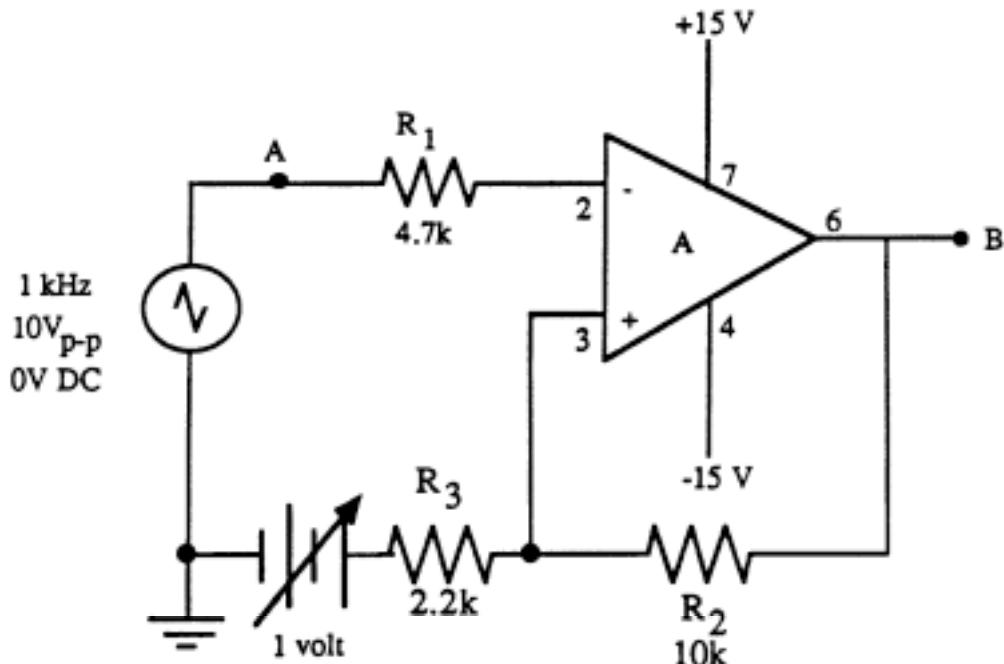

Figure 3 - Schmitt trigger
The amplifiers you built in previous labs used negative feedback – a resistor feeding the output signal back to the inverting input. By using positive feedback – a resistor feeding the output back to the non-inverting input – the two switching points can be moved further apart. Consider the circuit of Figure 3 and assume that the input is zero, that the output is +15 volts, and that $R_2=R_3$. R_2 and R_3 set the voltage at the non-inverting input to +7.5 volts, ($V_+ - V_-$) is greater than 0, and the output is indeed forced to +15 volts. If we raise the voltage to slightly above 7.5 volts, e.g., +7.50015 volts, then $A(V_+ - V_-)$ is greater than -15 volts and the output switches to -15 volts. This changes the voltage at the non-inverting input to -7.5 volts which makes ($V_+ - V_-$) very negative, maintaining the output at -15 volts. The output will stay at -15 volts until the input drops to slightly below -7.5 volts, e.g., -7.50015 volts which will make $A(V_+ - V_-)$ go to +15 volts, setting the output to +15 volts, setting the non-inverting input to +7.5 volts. This makes ($V_+ - V_-$) very positive, maintaining the output at +15 volts. We can summarize the operation of the circuit by saying that, when the input goes above the upper switching point, the output will go negative and stay negative until the input goes below the lower switching point. This characteristic is called “hysteresis” and this type of circuit is called a “Schmitt trigger.”
- (1) Build the Schmitt trigger circuit of Fig. 3 with $R_2 = 10K$ and $R_3 = 2.2K$. Use the same input waveform as you used in Part 1 and initially set the DC offset to 0V.
- (2) Display points A and B simultaneously on the oscilloscope and record the waveforms using Benchlink.
- (3) Carefully note their phase difference and the two switching points.
- (4) Slowly vary the DC offset between 0V and +3V and observe what happens at point B.
Calculate the switching points for the circuit of figure 3 without using your experimental data. SHOW WORK!!